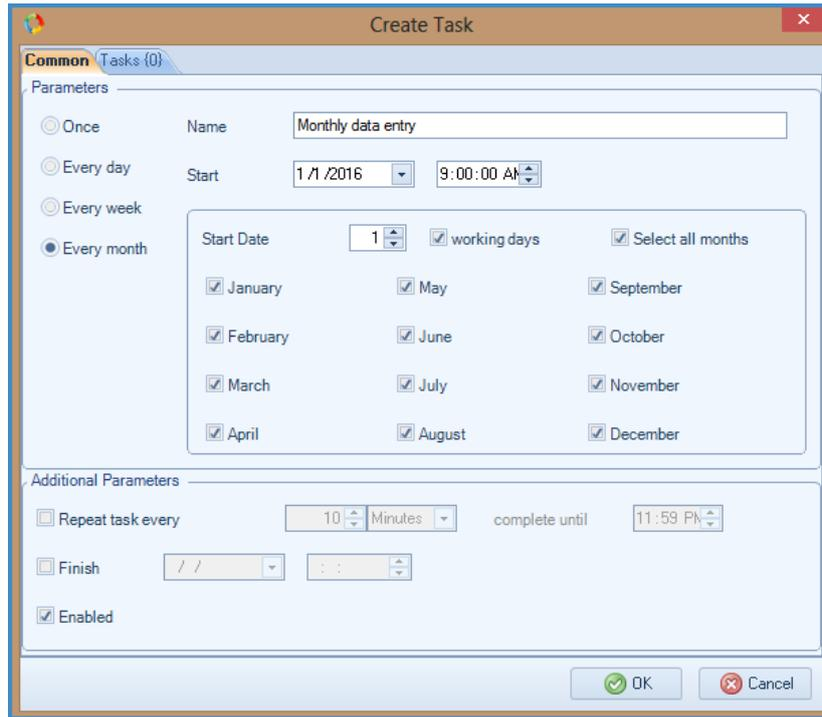

Fig. 44. Creating a schedule
- Tick the **Select all months** box and indicate 1 working day as the initiation day (Fig. 44).